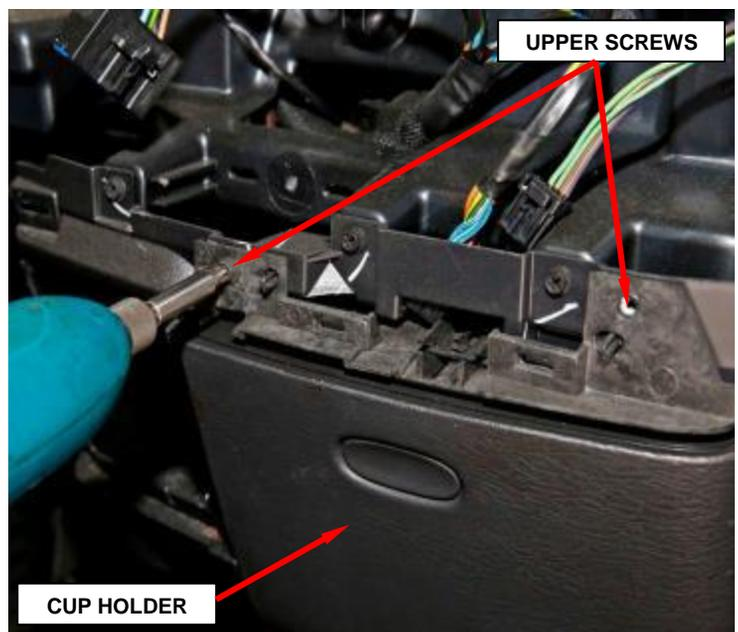

Figure 8 – Upper Cup Holder Screws
- b. Remove and save the two upper screws that secure the cup holder to the instrument panel (Figure 8).